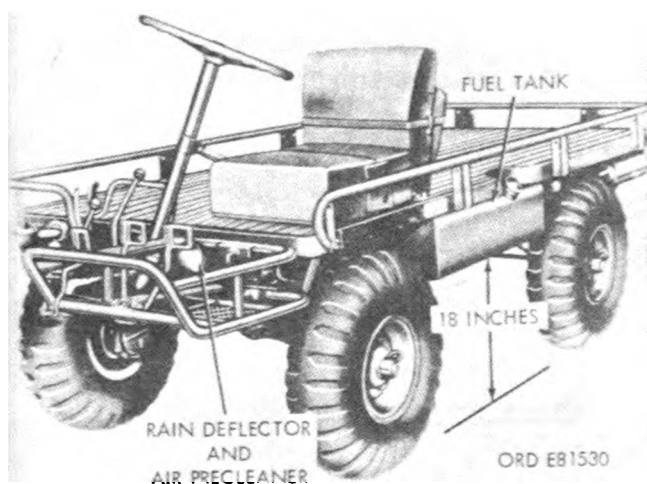

Figure 2-39. Determining depth of water.
a. General. In fording, vehicles may be subjected to water of varying depths. Factors to be considered are normal fording capabilities, spray-splashing precautions, and accidental complete submersion. It is important that water does not enter the rain deflector and air precleaner (fig. 2-39) during fording operations. Submersion of the rain deflector and air precleaner would allow water to enter the air intake system and stall the engine.
b. Normal Fording. Fording of bodies of water up to maximum depth of 18 inches (fig. 2-39) is based on the standard vehicle with normal waterproofing protection provided for units as manufactured, without a deep-water fording kit. Observe the following precautions:
- (1) Do not exceed known fording limits of vehicle (*b*, above).
- (2) The engine must be operating at maximum efficiency before attempting to ford.
- (3) Shift transmission and transfer into lowest speed position; speed up engine overcome the possibility of a stall.
- (4) All normal fording should be at
d. Accidental Fording Over 18 Inches. During fording operation the vehicle may be driven accidentally into water over 24 inches deep, and rain deflector and air precleaner (fig. 2-39) may have been momentarily under water, allowing water to enter the air intakes system in the frame tube. In this event, as a precaution, remove drain plugs from the frame tubes using the wheel nut wrench, drain accumulated water and install plugs (fig. 2-40). If complete submersion occurs, the vehicle must be salvaged, temporary preservation applied, as in *c* above, and then sent to organizational maintenance as soon as possible for required maintenance.